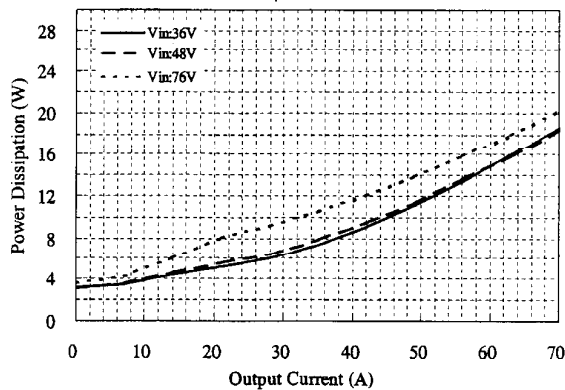

Fig.1-4 PAH200H48-1R8/B Power dissipation vs Output Current (Output voltage : Nominal, Ta=50°C;typical value)
Fig. 1-4 to 1-6 indicates power dissipation (Pd) of each models at following condition.
- 2) When the condition of input voltage and output voltage are different and it is impossible to determine power dissipation (Pd) from Fig.1-4 to 1-6, calculate power dissipation as follows.